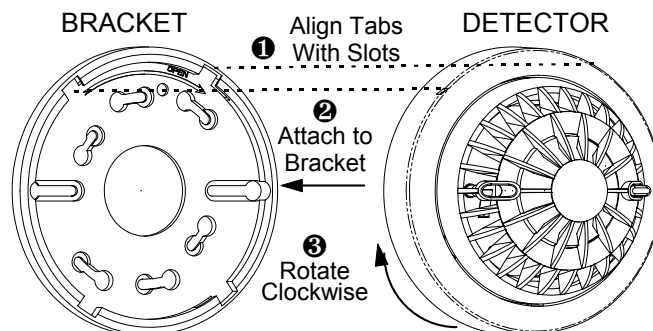

Figure 7. Final Assembly
- B. Attach the detector to the bracket as shown in Figure 7. Pull outward to make sure that the detector is securely attached to the bracket.